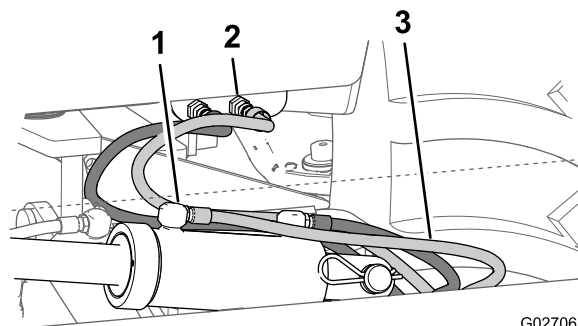

Figure 43
4. Connect the tilt cylinder retract hose (3/8 x 62-1/4 inch) between the bulkhead fitting for the tilt cylinder retract circuit at the left-hydraulic panel. and the retract port of the tilt cylinder (Figure 43)